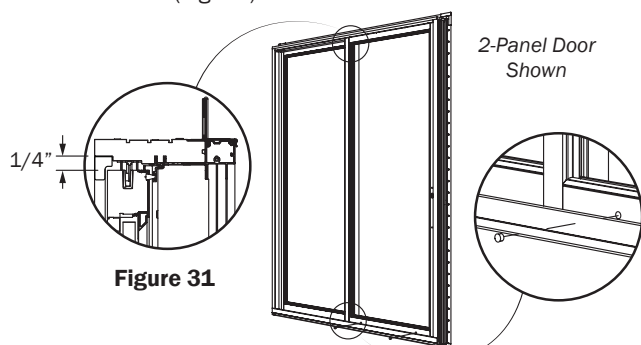

Figure 31
34. To adjust the panels, the rollers can be accessed using the holes on the interior face of the bottom rails. Each roller can be adjusted separately using a Phillips head screwdriver. Turning clockwise raises the panel and counter clockwise lowers the panel. Adjust until panel glides smoothly on the track and panel is plumb and level with the head. Top of panel should be approximately 1/4" from the head (Fig. 31).